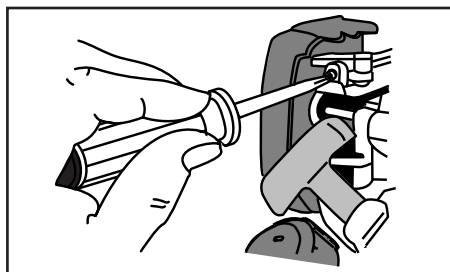

Fig. 26
3. If the engine stops frequently when idling, turn the idle speed screw **clockwise** 1/2 turn until the engine stabilizes (Fig. 26).
4. If the cutting head keeps rotating after the trigger is released, turn the idle speed screw **counterclockwise** 1/2 turn until the head stops rotating (Fig. 26).